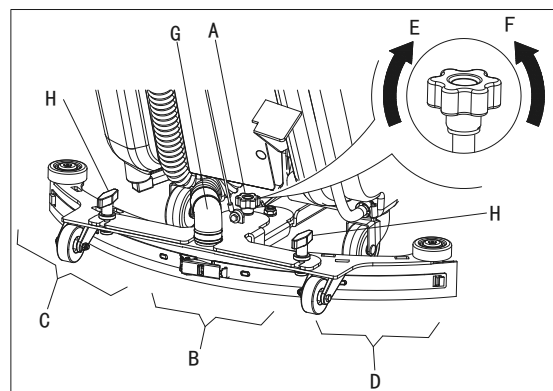

Figure 6
1. Install the squeegee and screw up the nut (H), then connect the vacuum hose (G) to the squeegee.
2. Adjust the squeegee by squeegee adjusting handle (A, Figure 6).
- a) If there is gap between the ground and middle section of rear squeegee blade (B), adjust the knob (A) in counterclockwise direction (F) until all section of rear squeegee blade good contact with ground, the front blade touch the ground slightly.
- b) If there is gap between the ground and both end section of rear blade(C and D), adjust the knob (A) in clockwise direction (E) until all section of rear blade good contact with the ground, the front blade touch the ground slightly.